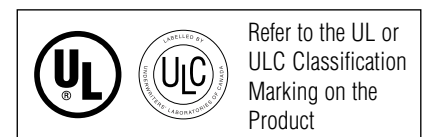

**Figure 3**
5. Attach the 1 1/2" (38) leg of the retaining angles to the damper sleeve using 1/2" (13) long welds, 1/4" (6) diameter bolts and nuts, 3/16" (5) diameter steel rivets or #8 sheet metal screws, 6" (152) o.c.. Secure the retaining angles to the structural members of a vertical drywall wall using drywall screws. In the case of wood stud construction (see Figure 2), the screws should be a minimum of 2 1/2" (64) long, with minimum 1 1/4" (32) penetration into framing. In the case of masonry walls or concrete floors (see Figure 3), use 1/4" (6) masonry anchors 1 1/2" (38) minimum length, with minimum 1 1/4" (32) penetration into wall or floor. All fasteners to be on a maximum of 12" (305) o.c. with a minimum of two fasteners per side, top, and bottom.